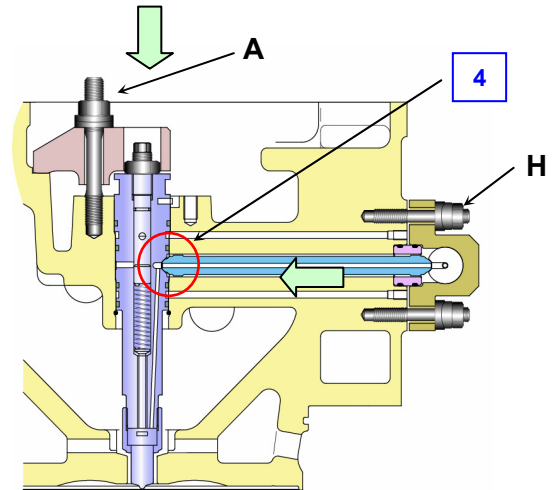

Fig. 8 Mounting of Fuel injection valve(연료 분사 밸브 조립)
4. Insert the injection pipe correctly as shown in fig. 8, and tighten the nut (H).